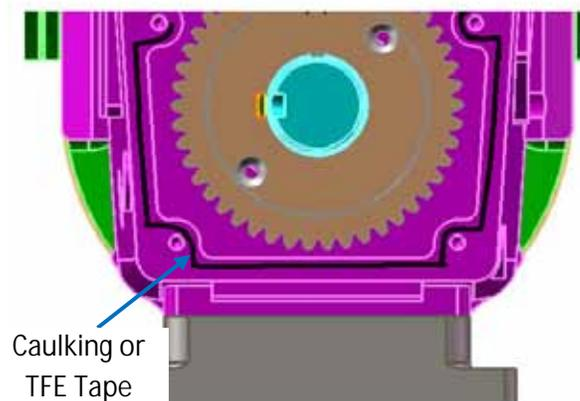

Figura 66 – Caulking Back of Gearbox
3. Aplica silicone sealant to the back of the engranaje. (TFE cinta de sellar en silicone-free models.). Coloca cinta on the inside of the screw holes, Figura 66.